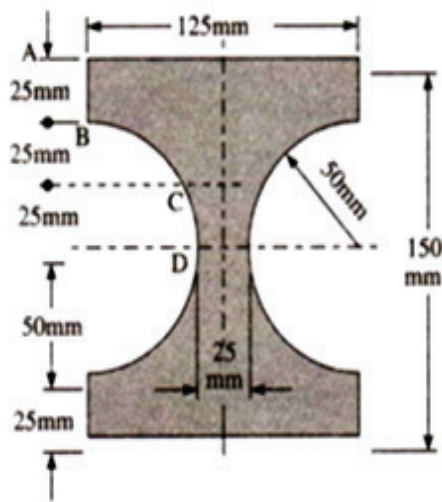

Figure 2
4. For the section shown in Figure 2, determine the shearing stresses at A, B, C and D for a shearing force of 200 kN and find the ratio of the maximum to mean shear stresses.